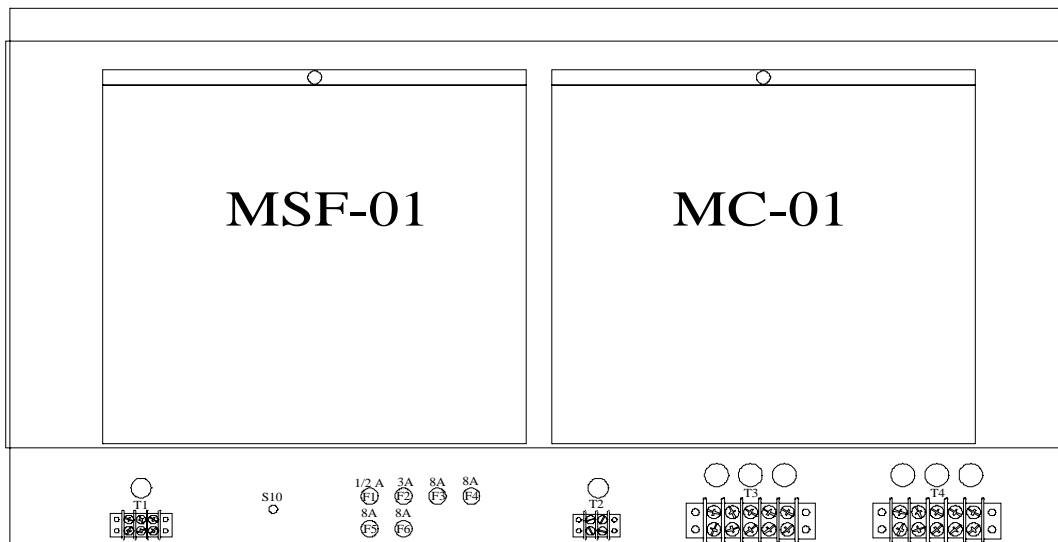

Figure 9 Upper Access Panel Removed
2. Figure 9 shows the view behind the access panel. Feed the power cables through one of the holes in the plate below the access panel.